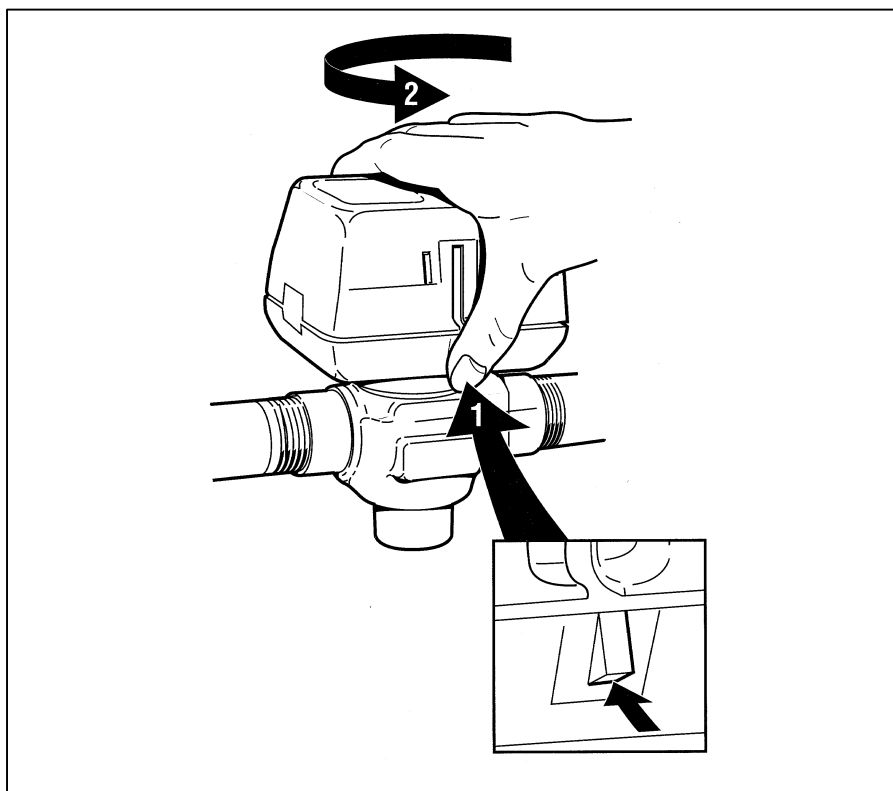

Figure 10 Latch mechanism
3. The actuator head is automatically latched to the valve (see figure 10). To remove, lift up on the latch mechanism located directly below the red manual open lever. Press the actuator head down towards the body with moderate hand force and turn counter-clockwise by 1/8 turn (45 degrees) simultaneously. Lift the actuator head off the valve body.
4. Install the new actuator head by reversing the process in (3).